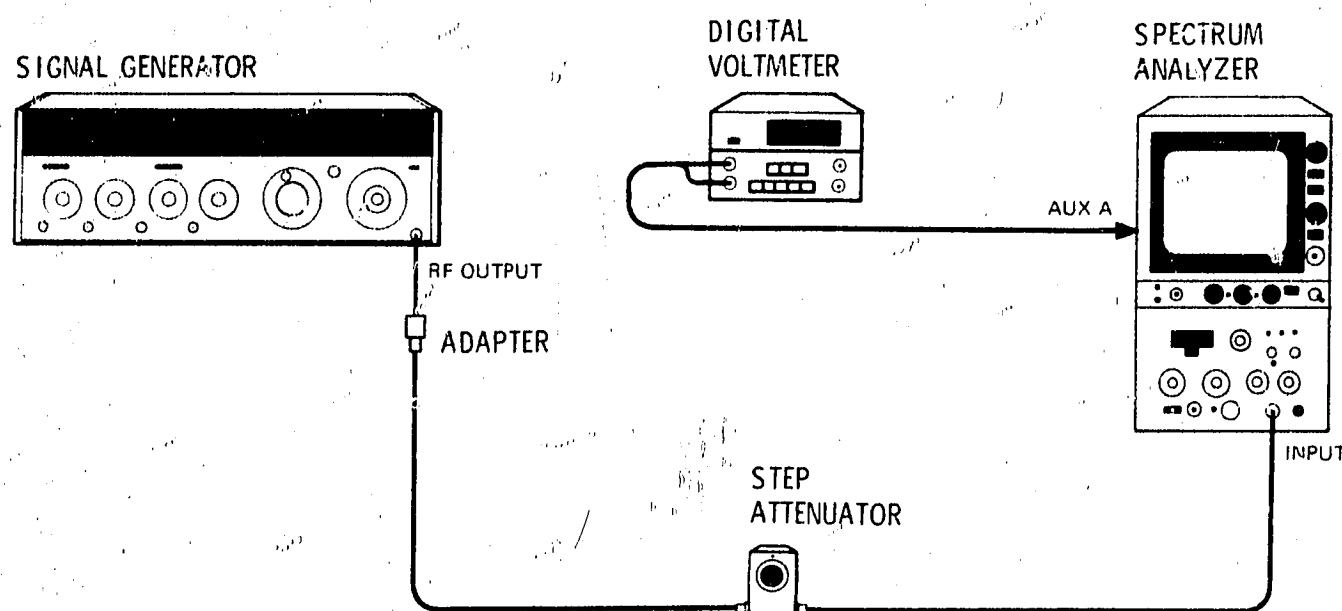

Figure 4-21. Amplitude Log Display Test Setup
2. Connect equipment as shown in Figure 4-21.